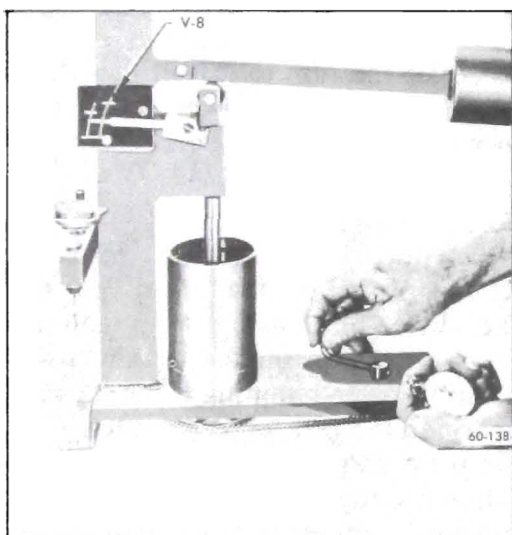

Figure 60-224--Checking Lifter Leakdown Rate
4. Lower the ram to rest in the lifter push rod seat, then lower the weight arm to rest on the roller of ram as shown in Figure 60-224.